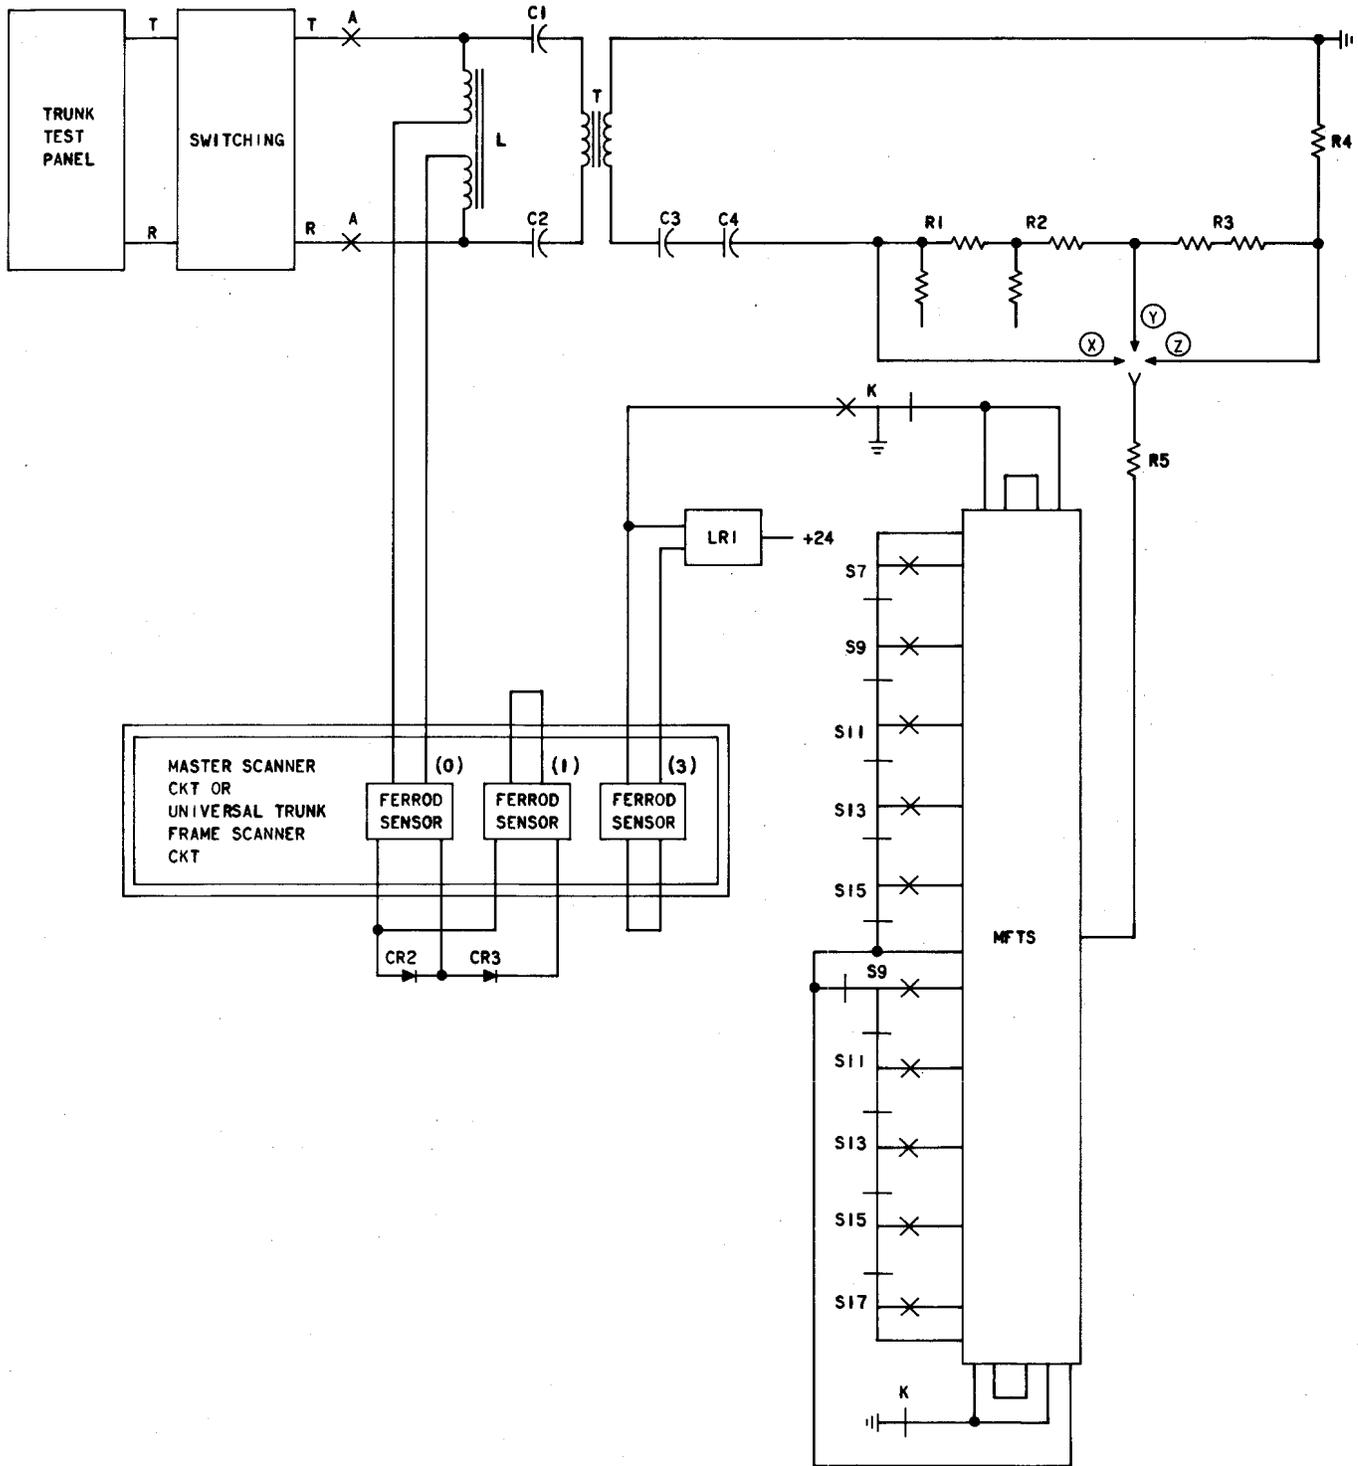

Fig. 1—Multifrequency Transmitter Test Circuit (SD-2H121)
1.03 The multifrequency (MF) transmitter circuit (Fig. 1) generates voice frequency signals in the MF code. These code signals are used to transmit the directory number of the called customer or other information to distant central offices. This circuit also checks the continuity of loop trunk and observes start pulsing signals.